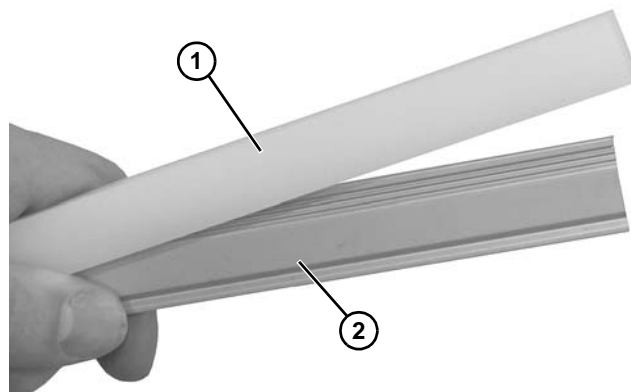

Figure 87
- Attach slide rail (**Figure 87, item 1**) to guiding (**Figure 87, item 2**).